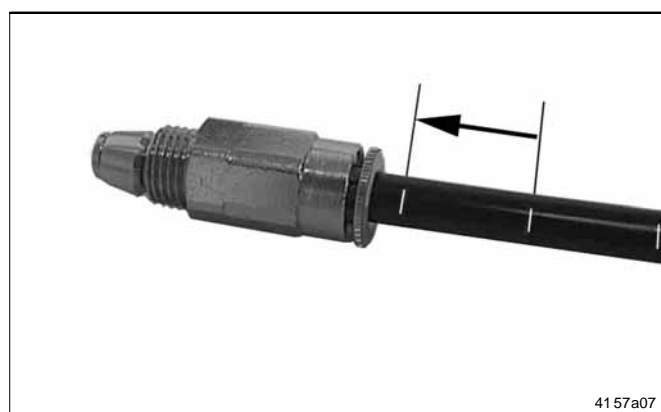

Fig. 3-2 Feed line insert into the check valve up to the next white mark
*Push the ends of the feed lines firmly into the Quicklinc fittings until they are fully seated in the body of the fitting. The primed feed lines are marked with white lines (fig. 3-2) to facilitate installation.*